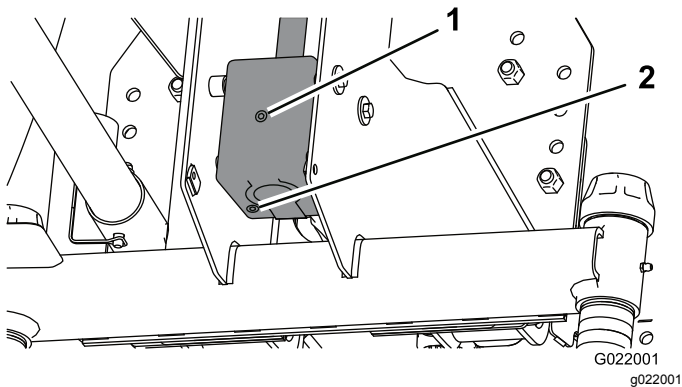

Figure 16
4. Remove the check/fill plug from the side of the gearbox (Figure 16).